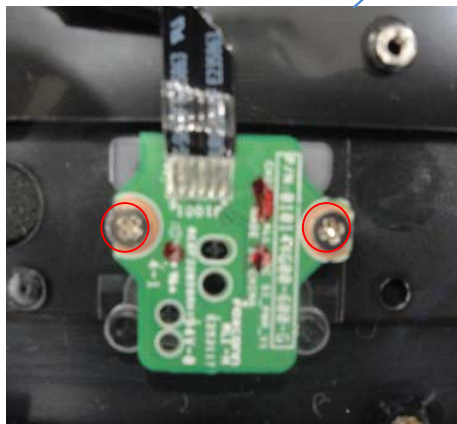

Fig.2
2. Loosen two screws the and take off the POWER BUTTON BOARD.(Fig.2)